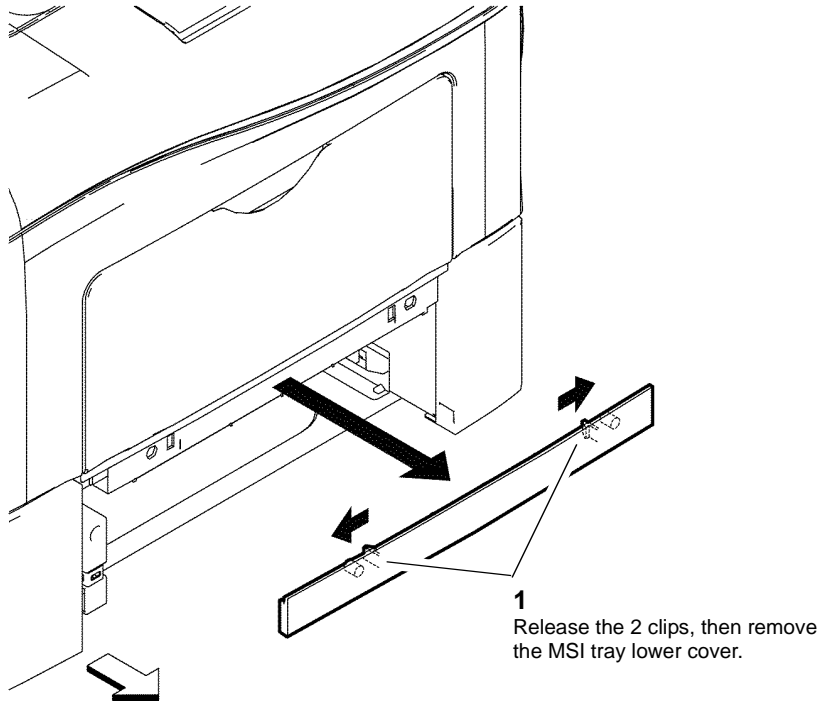

Figure 1 MSI tray lower cover
2. Remove the MSI tray lower cover, Figure 1.